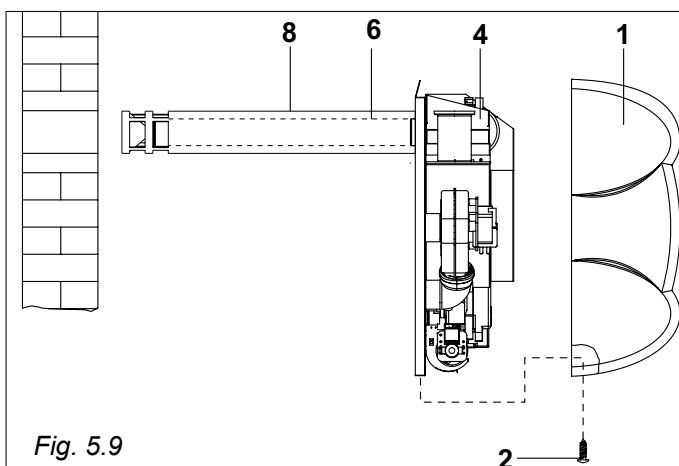

Fig. 5.9
1. Remove the shell (1) after having unloosing the fixing screws (2) (see fig. 5.9)
5. Apply the radiator (4) (fig.5.9) to the wall and matching with the hole made previously, then fix it with the supplied screws.